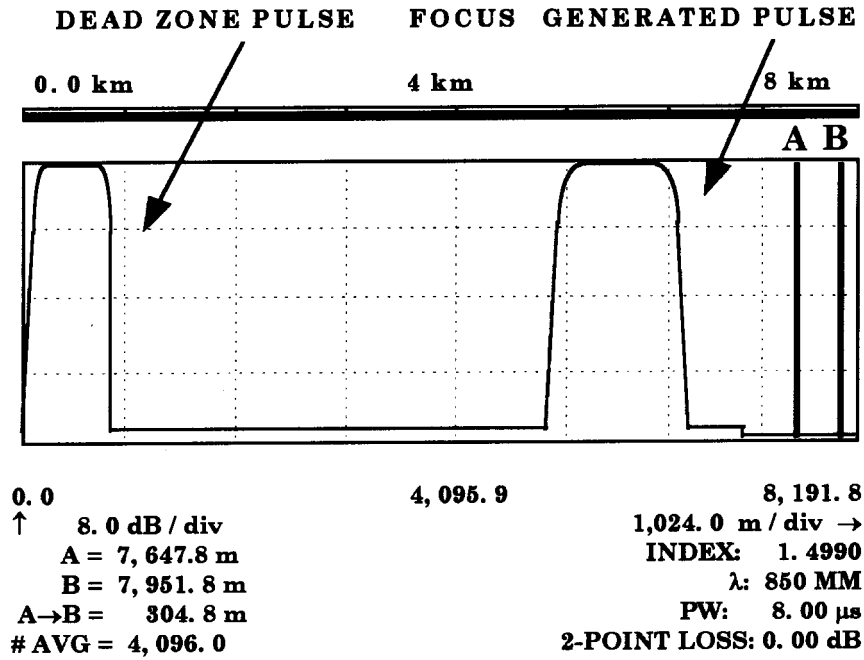

Figure 8. Example of FOCUS generated pulse equal to *dead zone pulse* amplitude (TD-260C).
- (11) Press **TI DISPLAY FROM** pushbutton to select **ORIGIN**.
- (12) Use technique of 8a(2) above to set **TI NEW LEN/RES** to **8.0 km/0.5m**.
- (13) Press **PULSE WIDTH** pushbutton to select **LONG**.
- (14) Set **FOCUS-SWCM SWITCHED ATTN** switch to **OUT**.
- (15) Press **REAL TIME** pushbutton.
- (16) Adjust **FOCUS-SWCM VAR ATTN 1** control until **FOCUS** generated pulse has approximately same amplitude as *dead zone pulse* as displayed on TI (fig. 8).